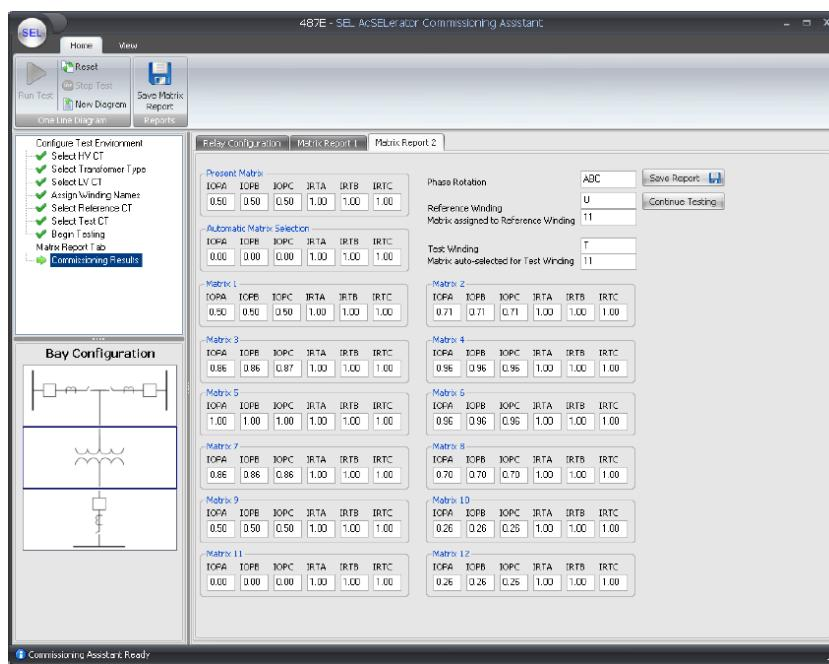

Figure 7.44 Results of Testing Terminal S and Terminal T
Step 16. Follow the steps described in the first test. As with the first test, the correct matrix number for Terminal T is 11, as shown in *Figure 7.44*.